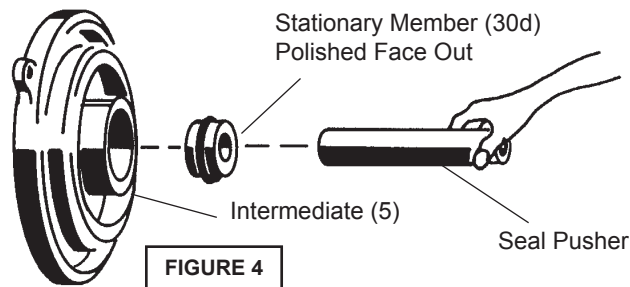

FIGURE 4
Lightly oil stationary member (30d), and with lapped surface facing motor, press stationary member (30d) with seal pusher into intermediate (5) until it seats against rotating member (30c) and replace snap ring (4), see FIGURE 4.